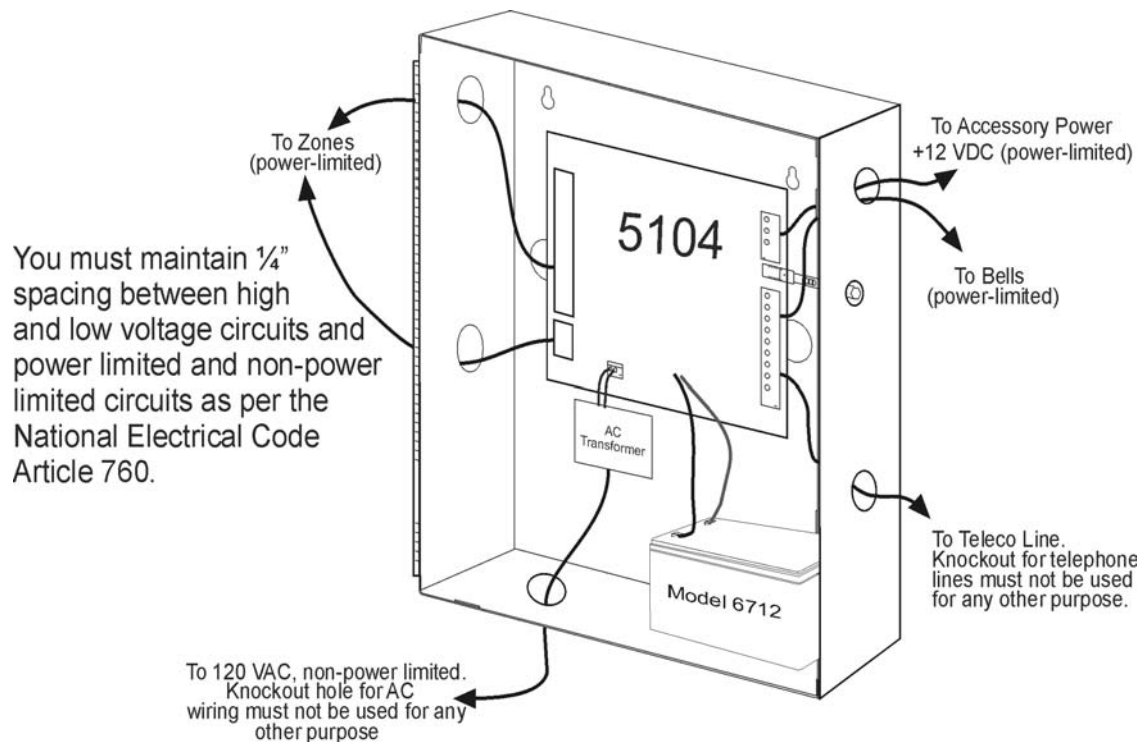

Figure 3-1 Wire Routing Example
- Route the wiring around the inside perimeter of the cabinet. It should not cross the circuit board where it could induce noise into the sensitive microelectronics of pick up unwanted RF noise from the high speed circuits. See Figure 3-1 for an example.